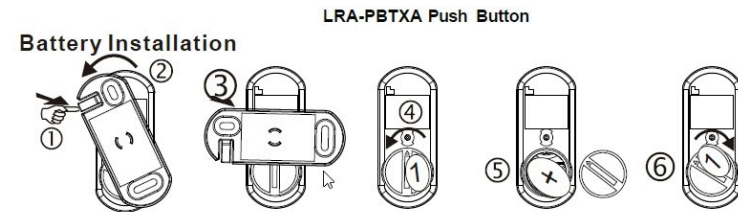
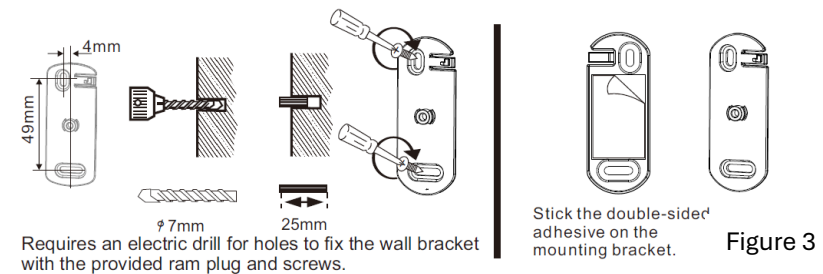
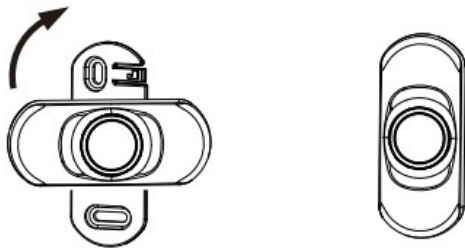

Figure 2
Figure 3
Figure 4
1. Turn over the push button so the mounting plate faces you (see Figure 2).
The push button may be mounted using the supplies mounting screws or supplied double-sided mounting tape (see Figure 3). Remove the backplate of the push button (see Figure 2) and mount it to the wall. The push button then snaps onto the mounting plate (see Figure 4).